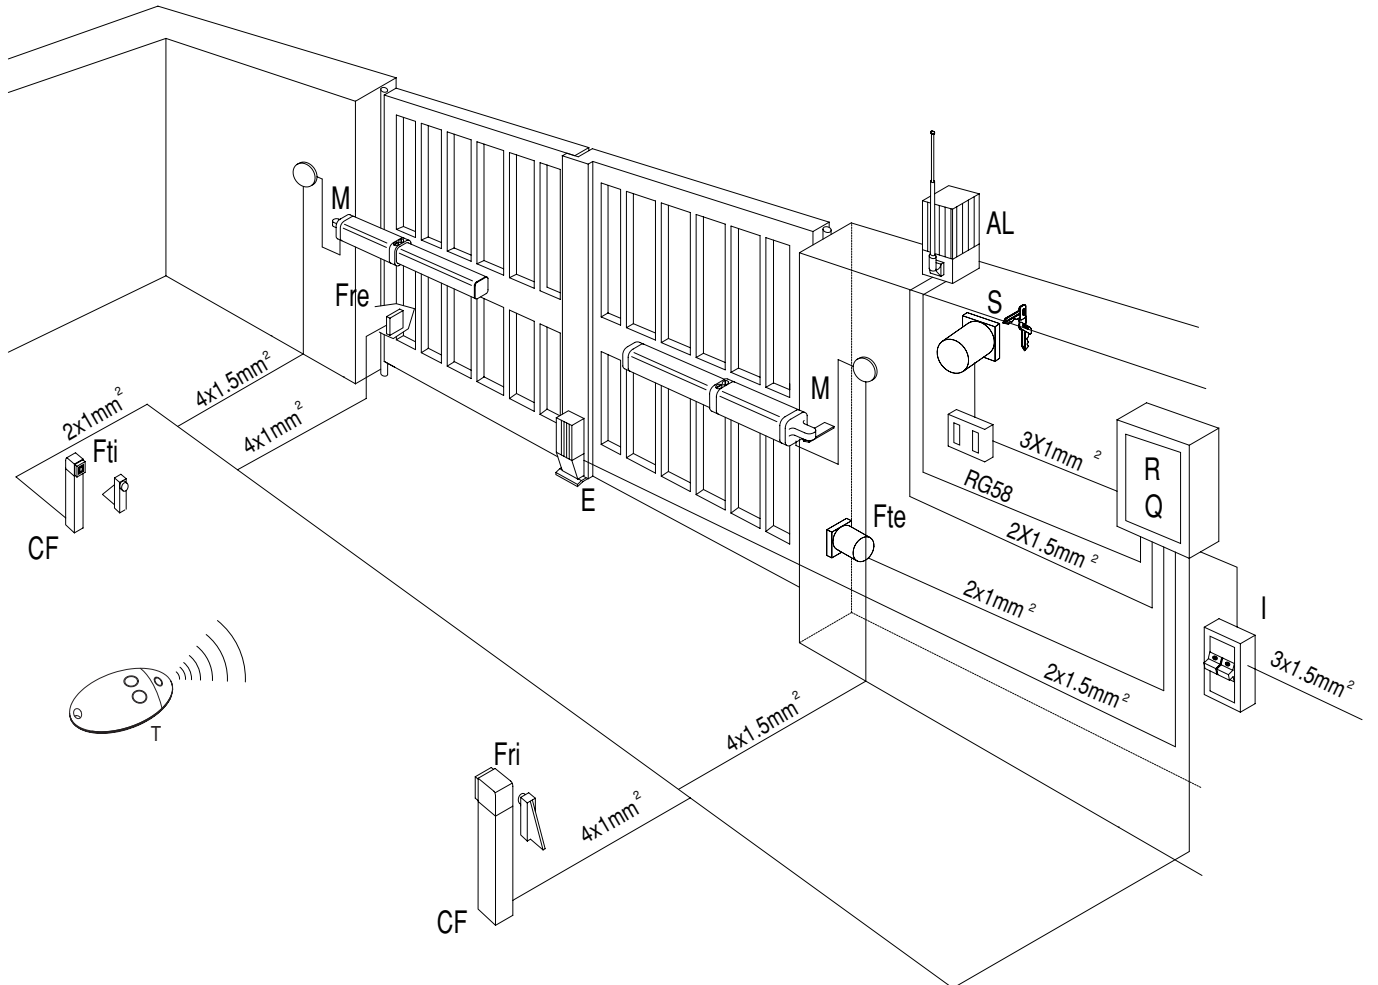

Fig. 20
- a) Screw in the bleeder screw (fig. 20) and remove the controller from the gate.